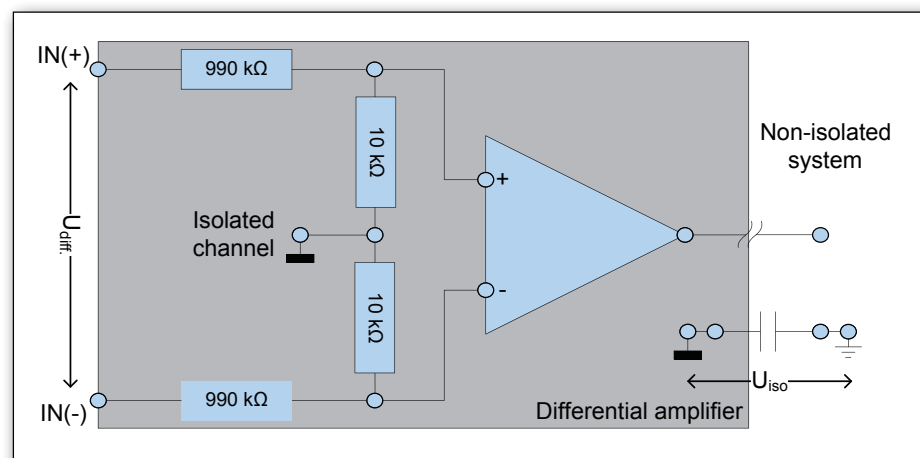
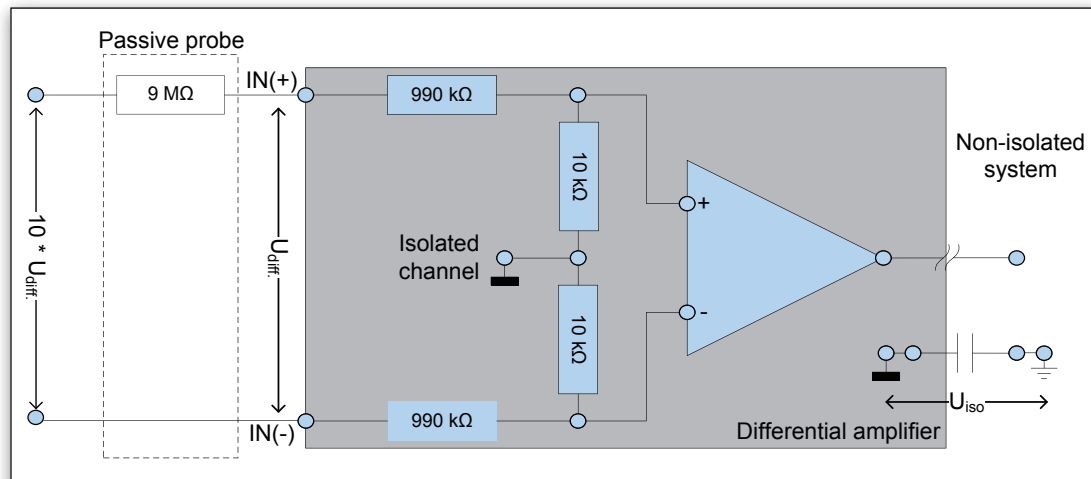

Figure 12.7: Isolated balanced input channel
Figure 12.8: Isolated balanced input channel with passive probe
- The isolated ground is not externally accessible, as shown in Figure 12.7.
Looking at Figure 12.7, the GN610B/GN611B specifies $U_{IN(+)}$, $U_{IN(-)}$ and $|U_{iso}| \leq 1$ kV. Using a standard passive 10:1 probe, combined with the GN610B/ GN611B results in the situation shown in Figure 12.8.